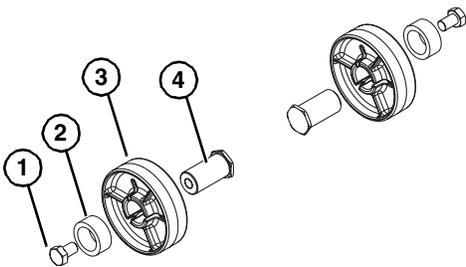

**Figure 18**
1. Install each return disk (**Figure 18, item 1**) onto conveyor frame with stub shaft (**Figure 18, item 2**), spacer (**Figure 18, item 3**), and cap screw (**Figure 18, item 4**).